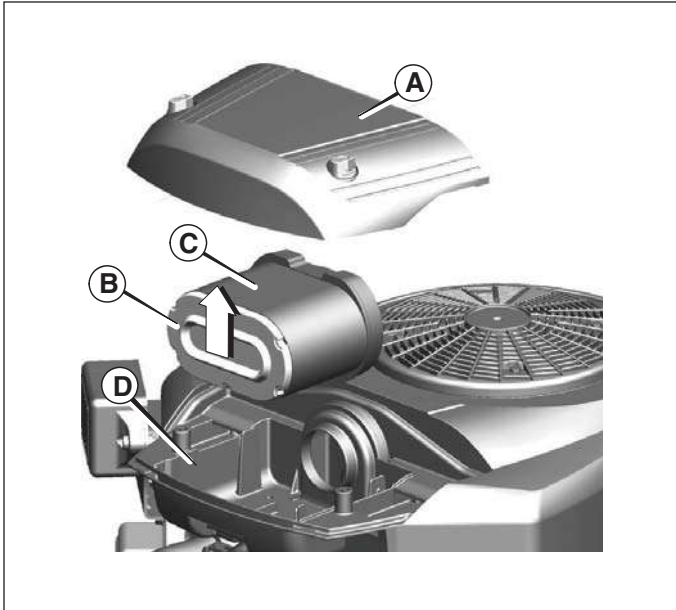

Figure 15
1. Remove the cover (**A**, Figure 15).